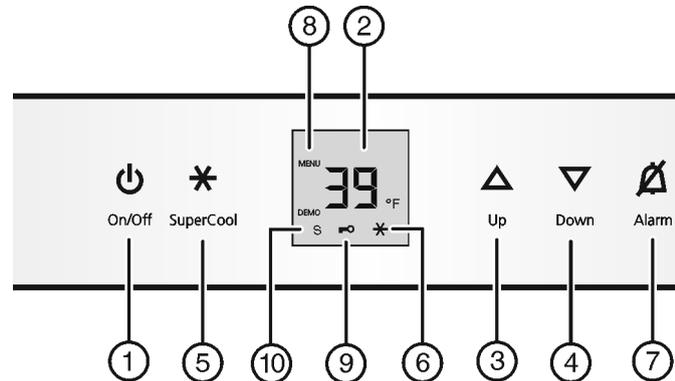

Fig. 3
- ▶ Press On/Off button Fig. 3 (1).
- ▶ Activate setting mode: Press SuperCool button *Fig. 3 (5)* for about 5 seconds.
- ▷ The SuperCool button *Fig. 3 (5)* will flash.
- ▶ Using Up button *Fig. 3 (3)*/ Down button *Fig. 3 (4)* select °.
- ▶ To confirm: Briefly press SuperCool button *Fig. 3 (5)*.
- ▶ Using Up button *Fig. 3 (3)*/ Down button *Fig. 3 (4)* select °F or °C.
- ▶ To exit setting mode: Press On/Off button *Fig. 3 (1)*.
- ▶ Select setting mode: Press and hold the SuperCool button *Fig. 3 (5)* for approx. 5 seconds.
- ▷ The Menu symbol *Fig. 3 (8)* lights up.
- ▶ Using the Up *Fig. 3 (3)* or Down button *Fig. 3 (4)*, select **c**.
- ▶ Press the SuperCool button *Fig. 3 (5)* briefly to confirm. When **c l** is shown on the display:
- ▶ To switch on the child proof lock, press the SuperCool button *Fig. 3 (5)* briefly.
- ▷ The Child safety symbol *Fig. 3 (9)* lights up. **c** flashes on the display.
- ▶ To switch the child proof lock off, press the SuperCool button *Fig. 3 (5)* briefly.
- ▷ The Child safety symbol *Fig. 3 (9)* goes out. **c** flashes on the display.
- ▶ To deactivate setting mode: Press the On/Off button *Fig. 3 (1)*.
- ▶ Press Alarm button *Fig. 3 (7)*.
- ▶ To activate setting mode: Press and hold the SuperCool button *Fig. 3 (5)* for approx. 5 s.
- ▶ To access the Sabbath mode function: Briefly press the SuperCool button *Fig. 3 (5)*.
- ▶ To turn on Sabbath mode, briefly press the SuperCool button *Fig. 3 (5)*.
- ▶ To turn off Sabbath mode, briefly press the SuperCool button *Fig. 3 (5)*.
- ▷ The Sabbath Mode symbol *Fig. 3 (10)* appears on the temperature display as long as Sabbath Mode is active.